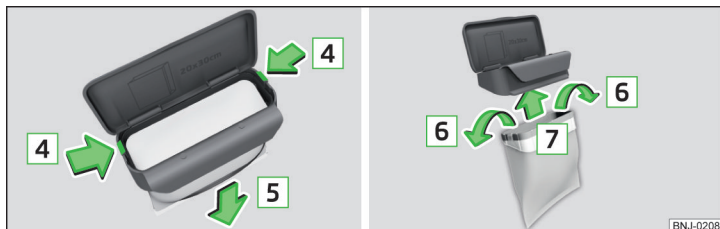

Fig. 87 Replacing bags
- Press the two locking lugs on the frame in the direction of arrow **4** » Fig. 87.